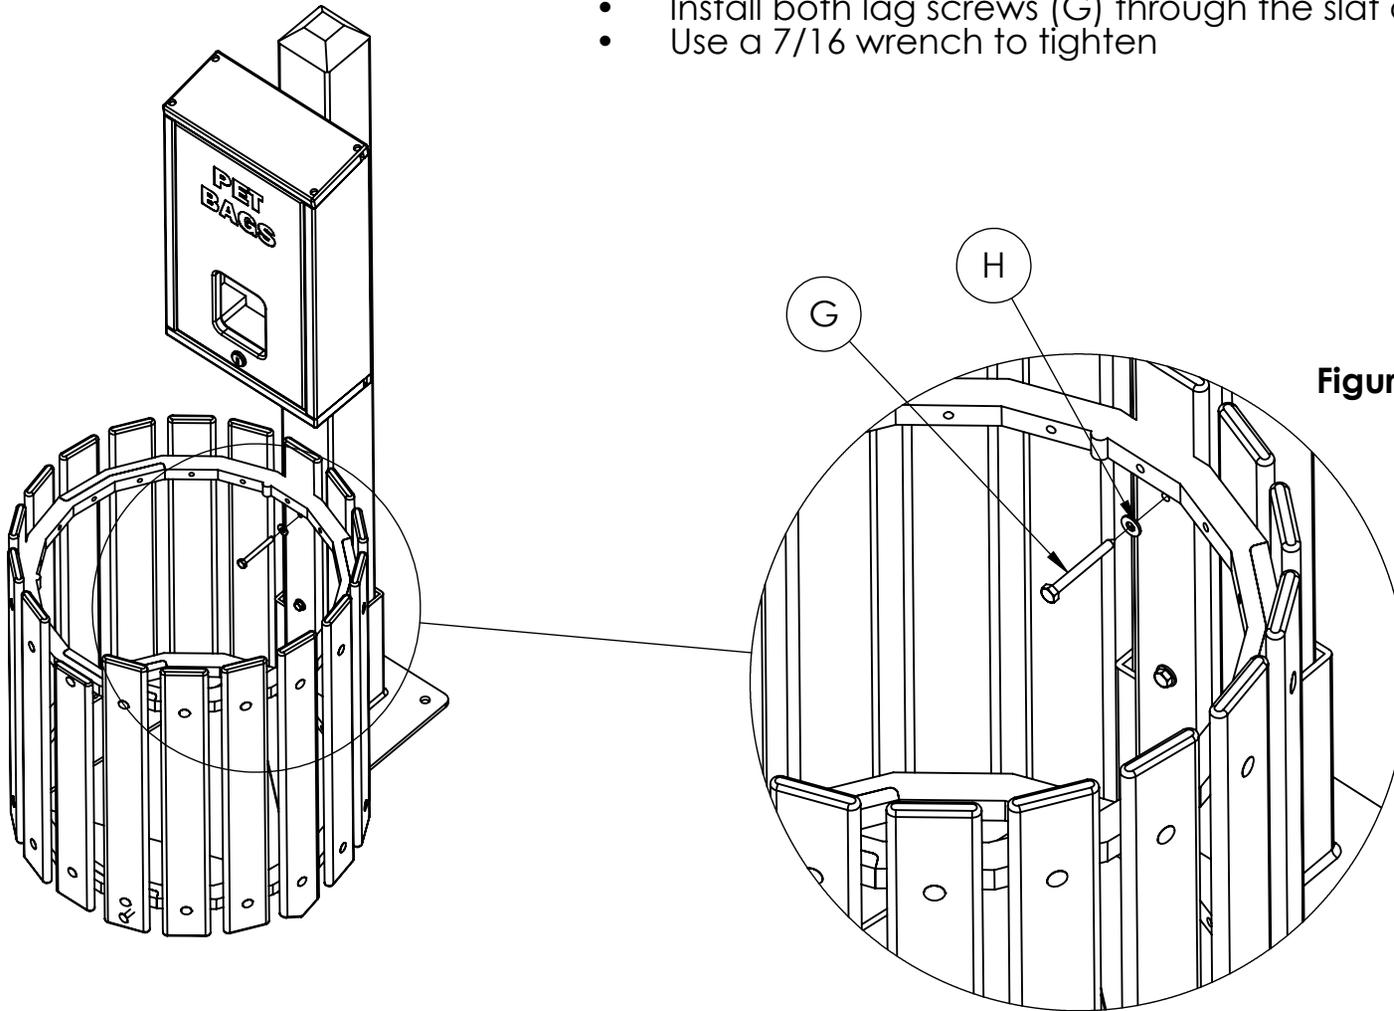

Figure 1
- Install both lag screws (G) through the slat as shown per Figure 1